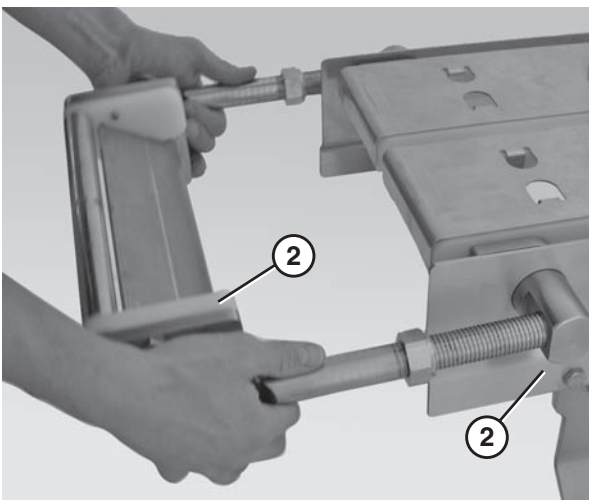

Figure 75
2. Slide the nose bar tail assembly (Figure 75, item 1) out of the take up blocks (Figure 75, item 2).